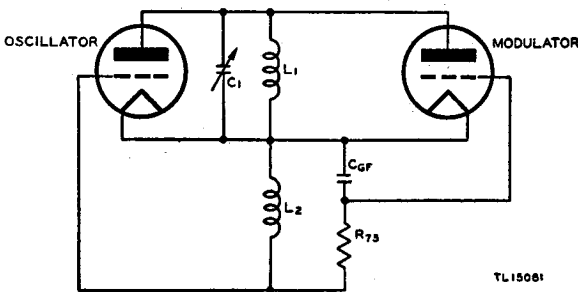

Figure 54. Radio Receiver and Transmitter BC-1000-A, reactance modulator, simplified a-c-schematic.
(1) Figure 54 shows how the first condition is met. The r-f voltage developed across the tuned circuit L1-C1 (the tuned plate circuit of the master oscillator) induces a voltage 180° out of phase in grid coil L2 (the grid feedback coil of the master oscillator). A network consisting of resistor R75 and the interelectrode capacitance C_{gf} between the grid